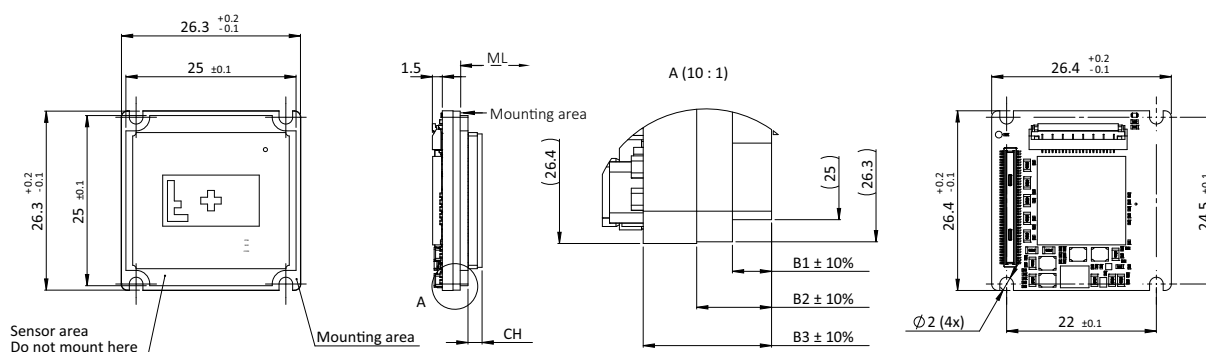

Figure 74: Bare Board (standard Alvium) dimensions
Dimensions that are common between different models are shown in Figure 74, model specific dimensions are listed in Table 96. **Mechanical length** (ML) defines the mechanical distance from the mounting area to the lens mount front flange, without optical filter. **Components height** (CH) relates to the electronic components with maximum height, sometimes the sensor.